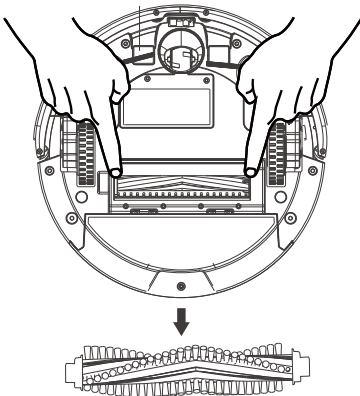

Figure 1
- Remove the main brush, clean the both ends of the bristle brush and the brush motion link twice a week. (See figure 1)